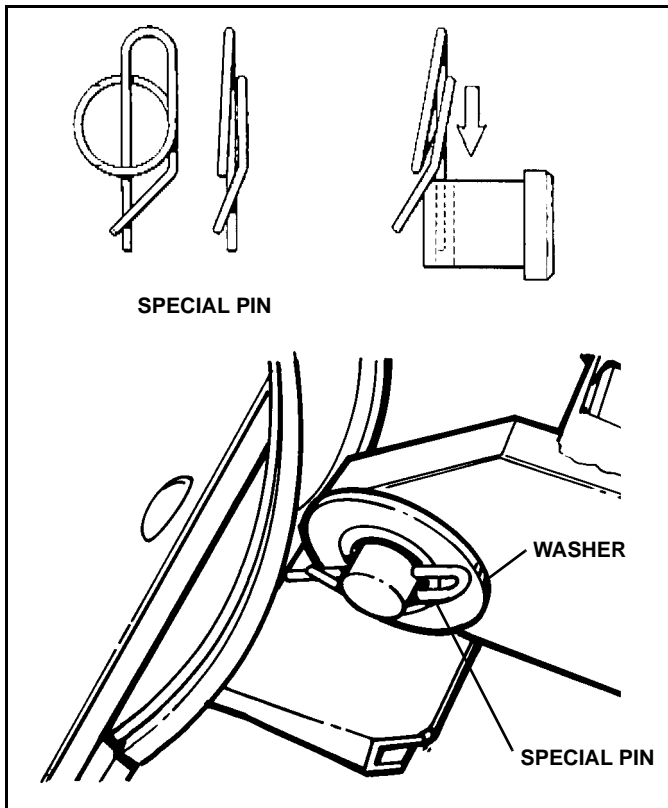

Figure 2-2
4. Secure pivot pins by installing flat washers and inserting special cotter pins in Pivot Pin hole until loop of Special Pin is engaged over end of Pivot Pin. (See Figure 2-2)